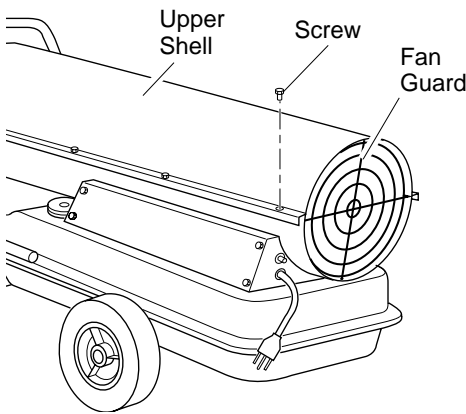

Figure 5 - Upper Shell Removal
1. Remove side cover (see Figure 10), fan guard, and upper shell (see Figure 5, page 8) screws using 5/16" nut-driver.